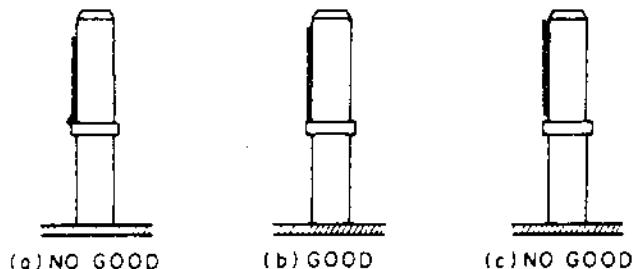

Fig. 5-4
- 4) Slightly turn the ② screw until the tape edge barely touches the lower part of the TAKE UP TAPE GUIDE without any curl or wrinkle as shown in Fig.5-4.
- 5) Adjust the head azimuth again. (Turning the hexagon screw or ② screw will cause head azimuth mis-alignment. Refer 5-3-1. Azimuth adjustment.)